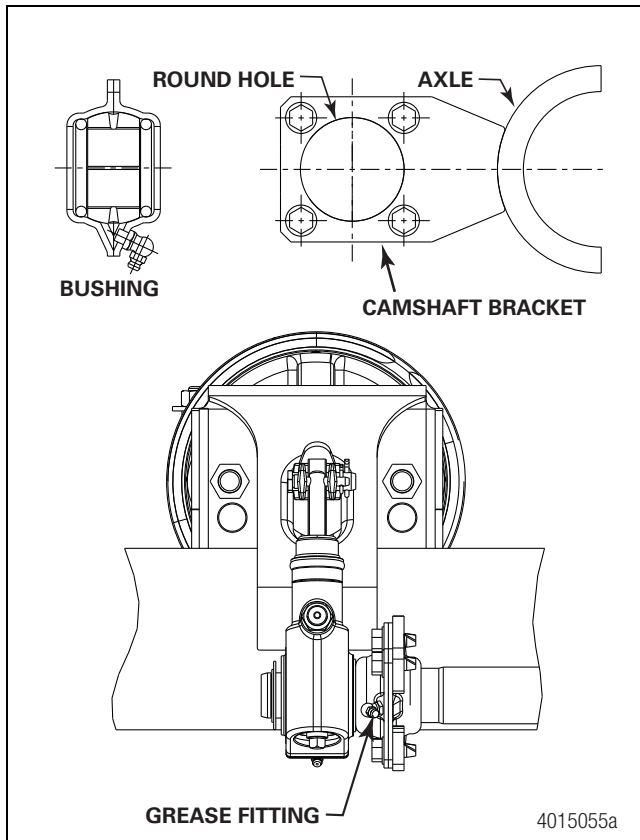

Figure 11.10
- An arrangement used in the past consists of a bushing with a 90-degree grease fitting installed onto a camshaft bracket with a round hole. When assembled, the grease fitting is oriented toward the slack adjuster. Figure 11.10.